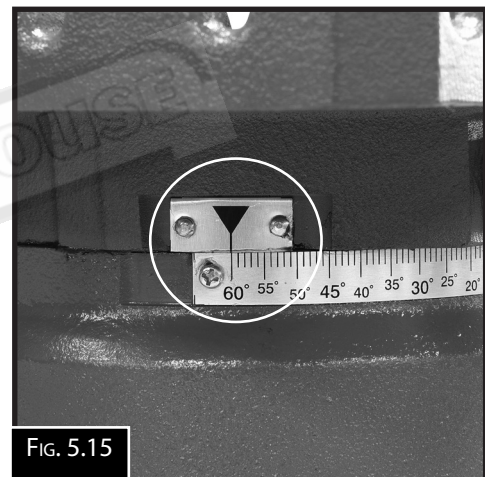

FIG. 5.15
3. Raise the saw bow, then move the head and set the scale to 60°. (Fig. 5.15) then lower the saw bow and lock in place.